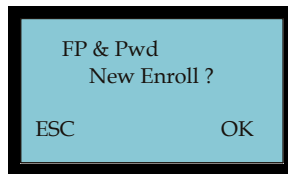

Figure 2-43 New Enroll FP & Pwd Screen
4. Press **OK** and FP & Pwd New Enroll? will appear (see **Figure 2-43**).